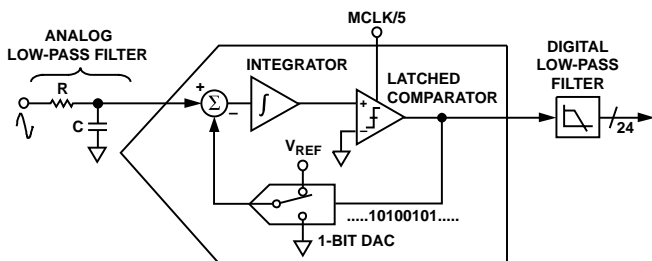
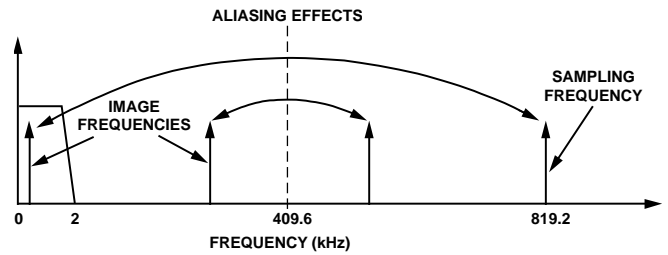

Figure 18. First-Order  $\Sigma$ - $\Delta$  ADC
Figure 20. ADC and Signal Processing in current channel Outline Dimensions
For simplicity, the block diagram in Figure 18 shows a first-order  $\Sigma$ - $\Delta$  ADC. The converter is made up of the  $\Sigma$ - $\Delta$  modulator and the digital low-pass filter.
Figure 18 also shows an analog low-pass filter (RC) on the input to the modulator. This filter is present to prevent aliasing. Aliasing is an artifact of all sampled systems. Aliasing means that frequency components in the input signal to the ADC, which are higher than half the sampling rate of the ADC, appear in the sampled signal at a frequency below half the sampling rate. Figure 20 illustrates the effect. Frequency components (arrows shown in black) above half the sampling frequency (also known as the Nyquist frequency, i.e., 409.6 kHz) are imaged or folded back down below 409.6 kHz. This happens with all ADCs regardless of the architecture. In the example shown, only frequencies near the sampling frequency, i.e., 819.2 kHz, move into the band of interest for metering, i.e., 40 Hz to 2 kHz. This allows the use of a very simple LPF (low-pass filter) to attenuate high frequency (near 819.2 kHz) noise, and prevents distortion in the band of interest. For conventional current sensors, a simple RC filter (single-pole LPF) with a corner frequency of 10 kHz produces an attenuation of approximately 40 dB at 819.2 kHz — see Figure 20. The 20 dB per decade attenuation is usually sufficient to eliminate the effects of aliasing for conventional current sensors. However, for a di/dt sensor such as a Rogowski coil, the sensor has a 20 dB per decade gain. This neutralizes the -20 dB per decade attenuation produced by one simple LPF. Therefore, when using a di/dt sensor, care should be taken to offset the 20 dB per decade gain. One simple approach is to cascade two RC filters to produce the -40 dB per decade attenuation needed.